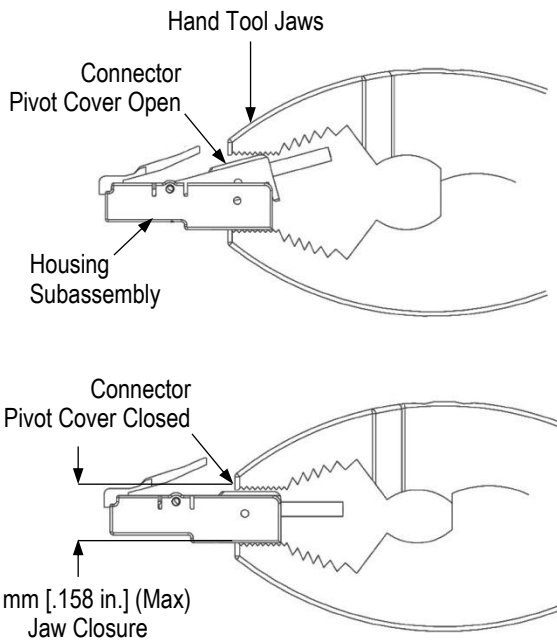

Figure 4
- Using a commonly available (medium sized) hand tool (such as, pliers), pinch the pivot cover toward the housing. See Figure 4.